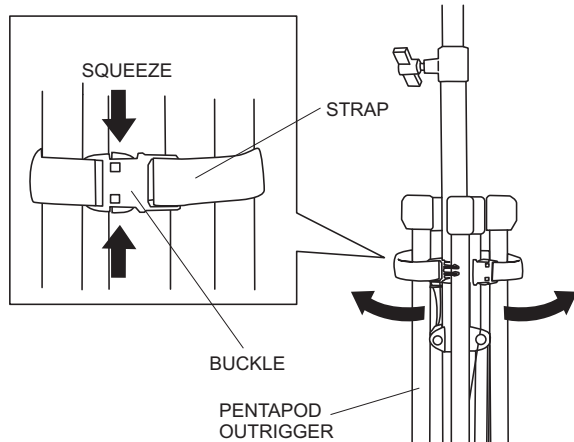

Figure 6. Releasing Pentapod Buckle
2. Remove the pentapod from the carrying case. The pentapod outriggers are secured together with a strap. See Figure 6. Squeeze both tabs on the buckle to unlock strap and release pentapod outriggers.